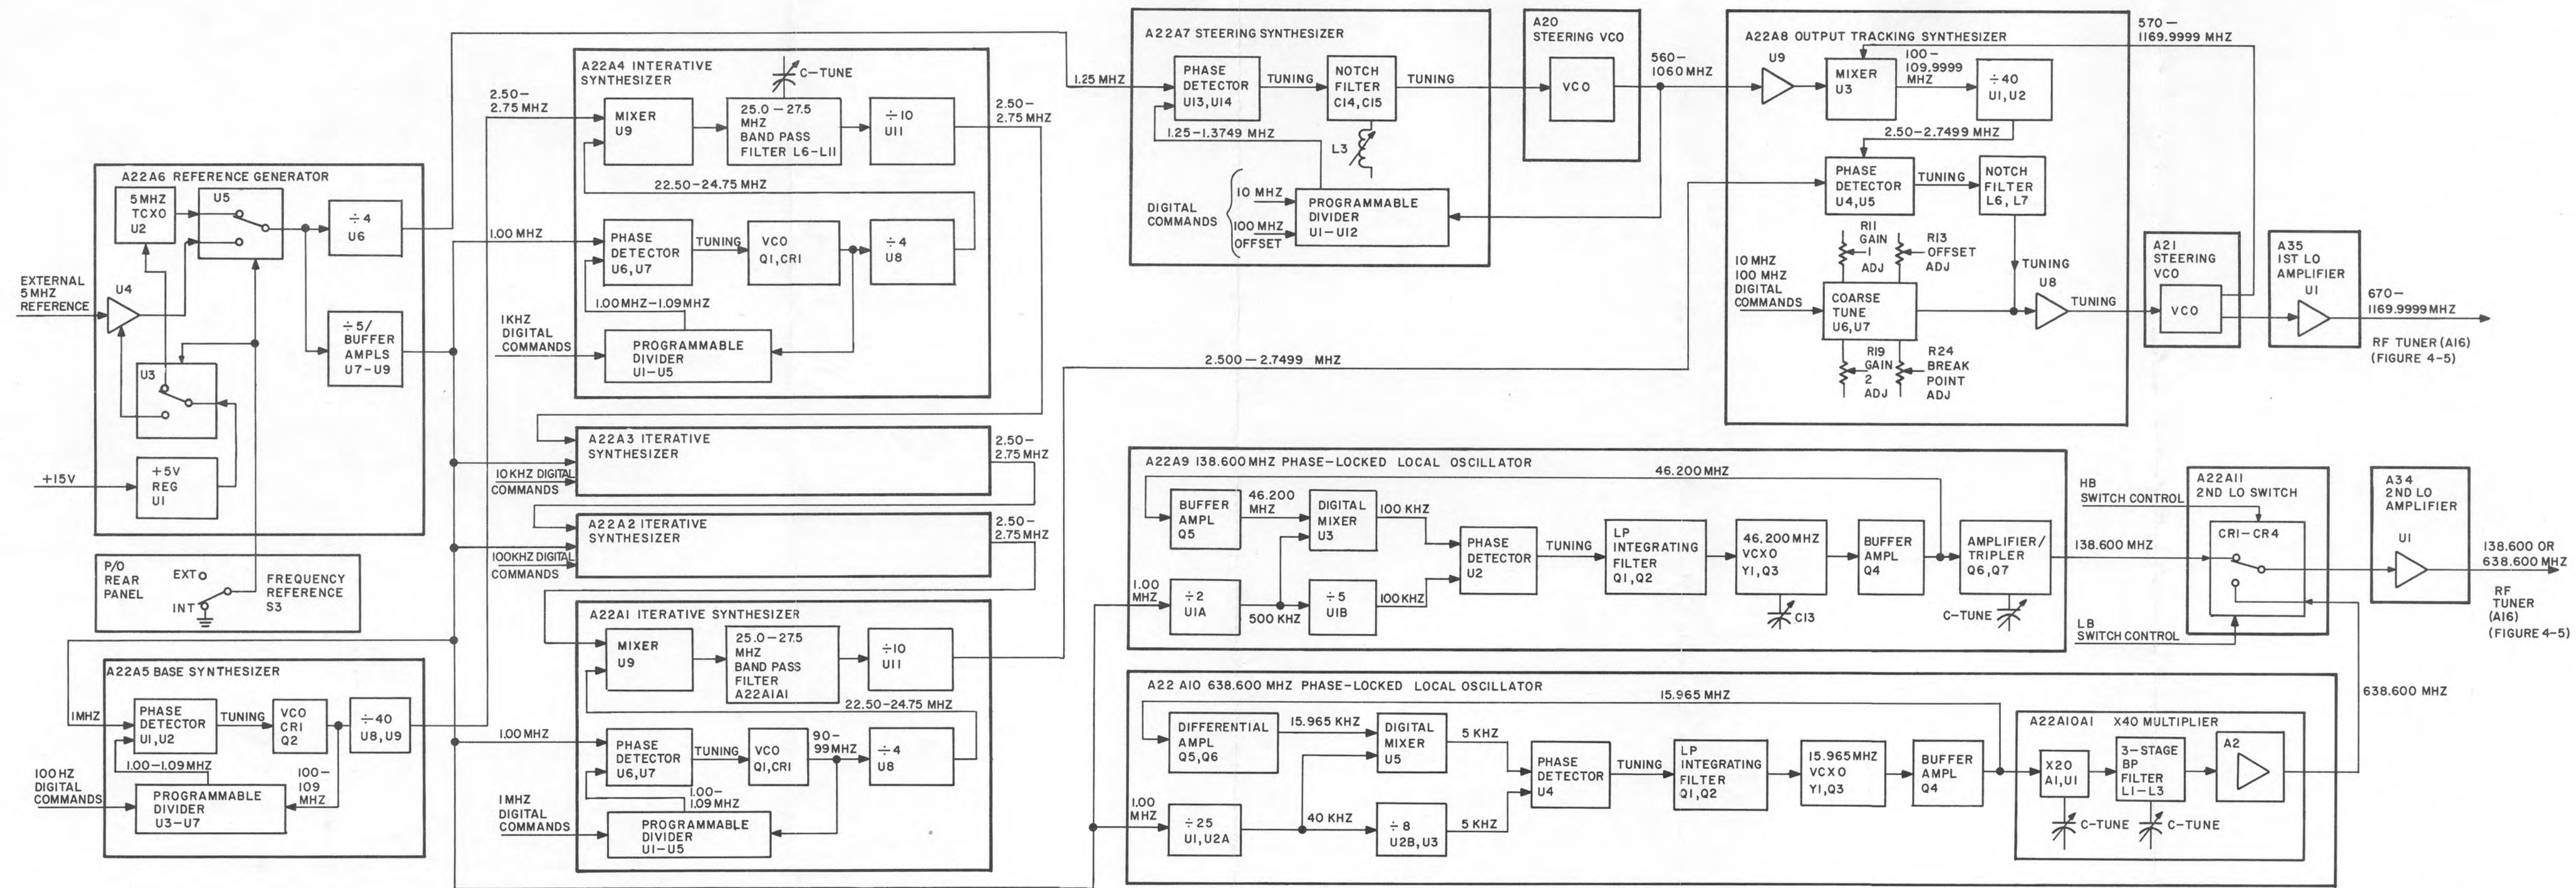

Figure 4-4. Synthesizer Section Functional Block Diagram
b. Synthesizer Section. The synthesizer section (figure 4-4) generates the 1st and 2nd local oscillator frequencies required by the RF section. These frequencies are determined by the tuned RF frequency of the receiver. The synthesizer section is composed of A22 synthesizer assembly, A20 and A21 voltage controlled oscillators, and A34 and A35 local oscillator amplifiers.